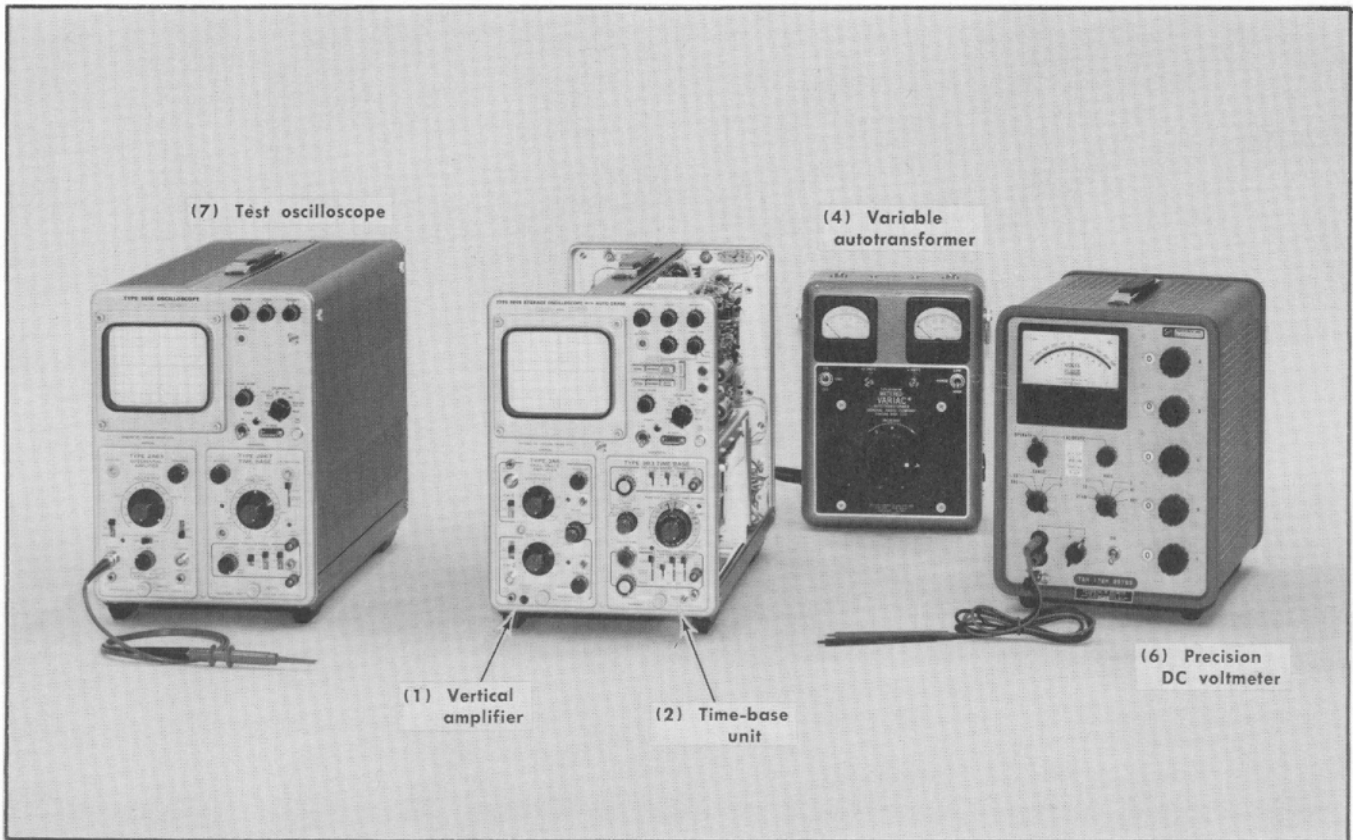

Fig. 5-1. Test equipment required for steps 1 through 6.
- a. Test equipment required for steps 1 through 6 is shown in Fig. 5-1. The illustrated equipment is keyed to that listed under Test Equipment Required.